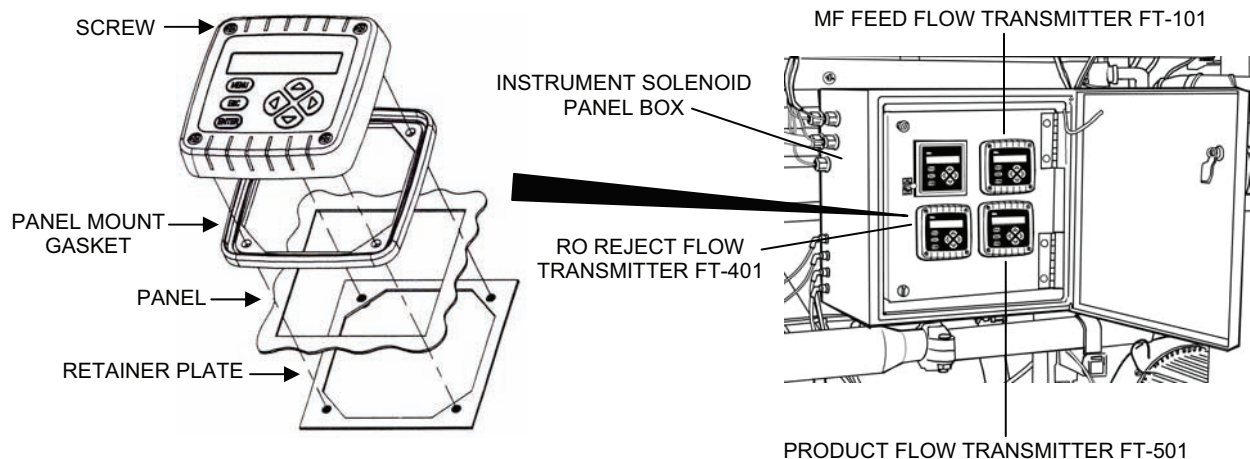

Figure 1. Flow Transmitter Removal.
1. Remove the flow transmitter from the instrument/solenoid panel box as follows (see Figure 1):